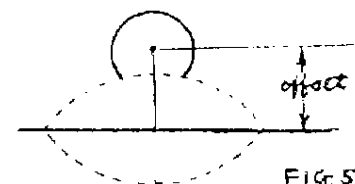

FIG. 5
3. Determine the offset [see fig. 5] by referring to one of these tables:
4. To set the offset--loosen set screw (A), which allows the blocks (B) and (C) to slide. After setting the determined offset, retighten set screw (A) to hold the position. This setting can most easily be done with the spindle in a freewheeling mode.